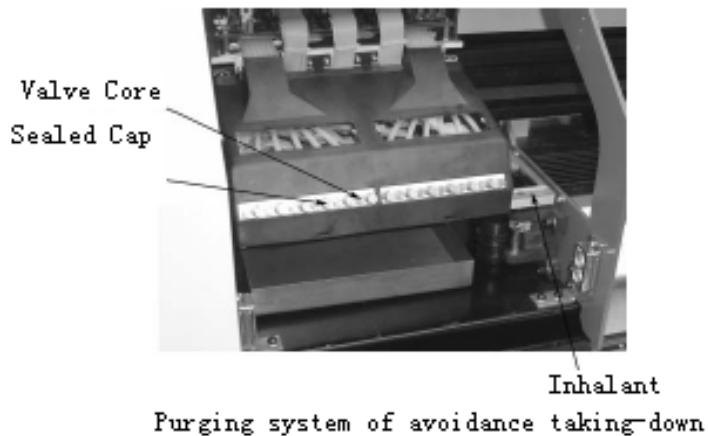

Fig 6
1. Purging as printing (see as Fig.6)
- ① During printing, if you find out that the print head is clogged, you should press "PURGE" key to purge the print head. The print head carriage will move automatically to the purging area at the left end of the machine.
- ② Press one of four color keys to purge print heads with one color ink. If print head clogged heavy, you should prolong time of purging.
- ③ After purging finished, press "back", then go on.
- ④ You can also use the cleaner cloth that soaked with cleaning solution and place it under print head for several minutes or sweep print head gently to get rid of